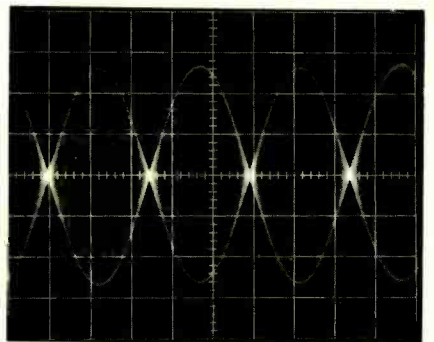

FIG. 10—THE AMPLITUDE OF the Sm signal is adjusted to give zero-axis crossing.
3. Applying only a sideband signal—the addition of the modulating L or R signal in phase opposition in the mixer stage, without the pilot—should result in Sm signals with equal amplitude and phase, providing a display with a sharp zero-axis crossing (Fig. 10).